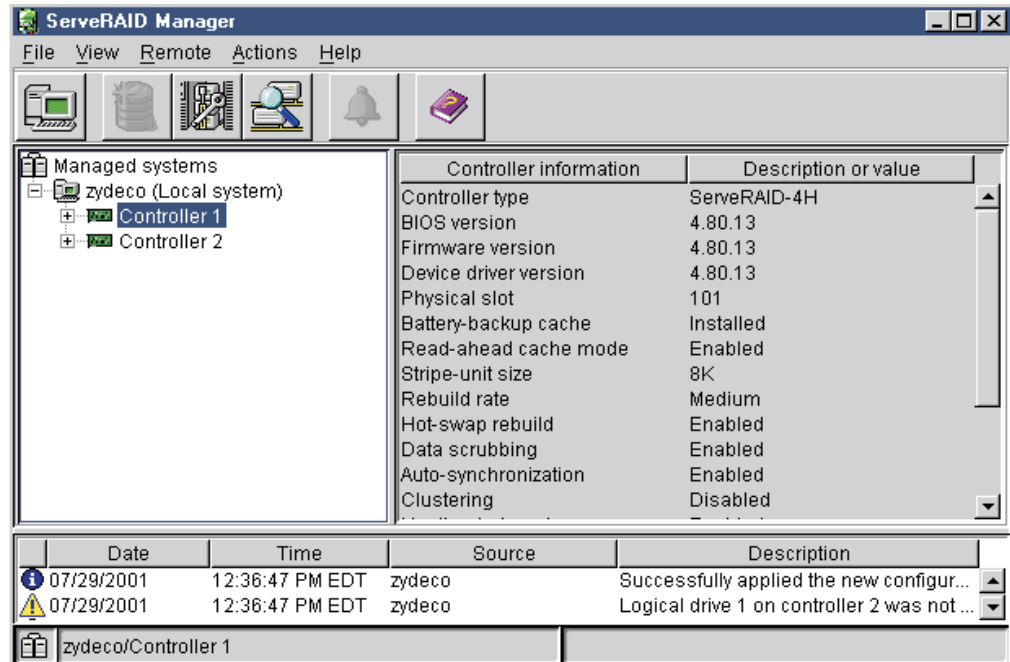

Figure 36. ServeRAID Manager window
2. The ServeRAID Manager program opens, and a window similar to the one shown in Figure 36 appears.
The ServeRAID Manager program opens, and a window similar to the one shown in Figure 36 appears.
4. The ServeRAID Manager program opens, and a window similar to the one shown in Figure 36 on page 112 appears.